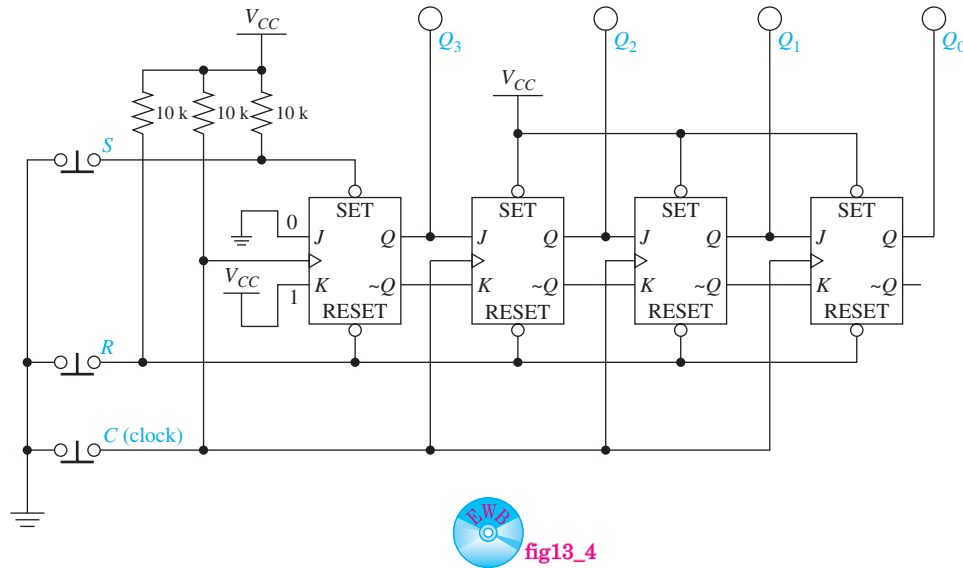

Figure 13–4 Using MultiSIM® to illustrate the operations of a 4-bit shift register.
- (a) Load the file *fig13_4* from the textbook companion website. Press the Reset key (*R*) to insure that all *Q*s start at 0. Set the first flip-flop by pressing *S*. Now, each time that you inject a clock pulse by pressing *C*, you will see the ON LED shift to the right. Repeat this setting and shifting process several times until you have a good feel for its operation.